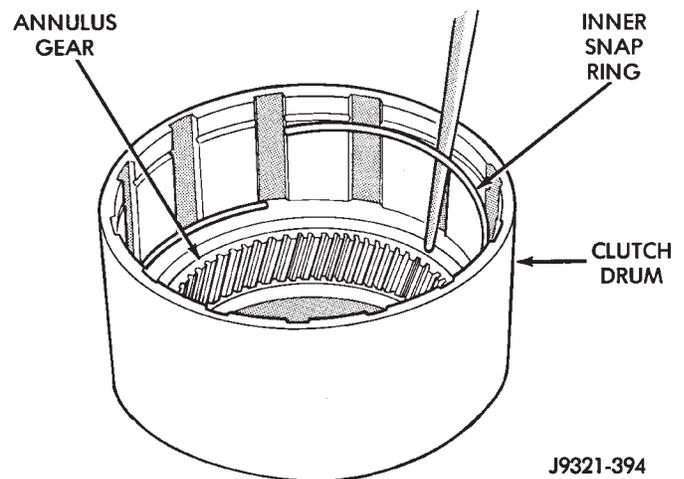

Fig. 238 Clutch Drum Inner Retaining Ring Installation
- (6) Slide clutch drum forward and install inner retaining ring (Fig. 238).